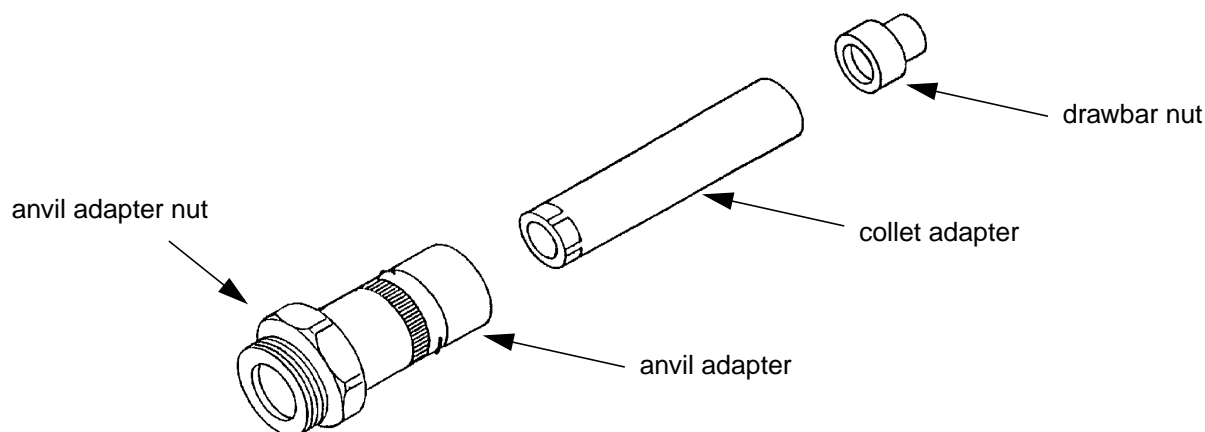

Figure 5 - Assembly of Offset Nose Piece to Hydraulic Pulling Head
5.5.2 Assemble offset nose pieces to the hydraulic pulling tool as follows (see Figure 5):